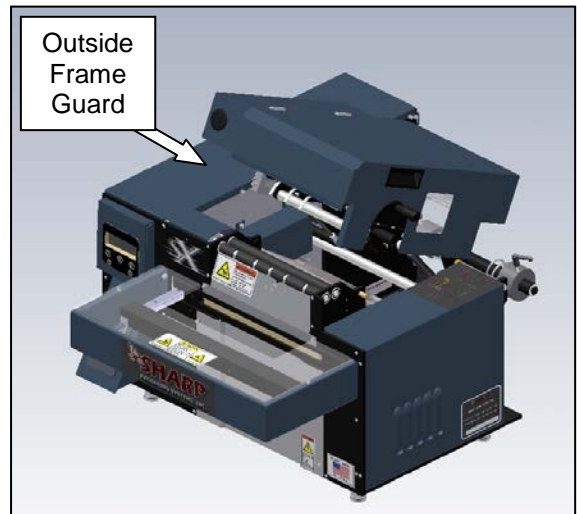

Figure 3-290. Guard Identification
3. Remove the outside frame guard (Figure 3-290).